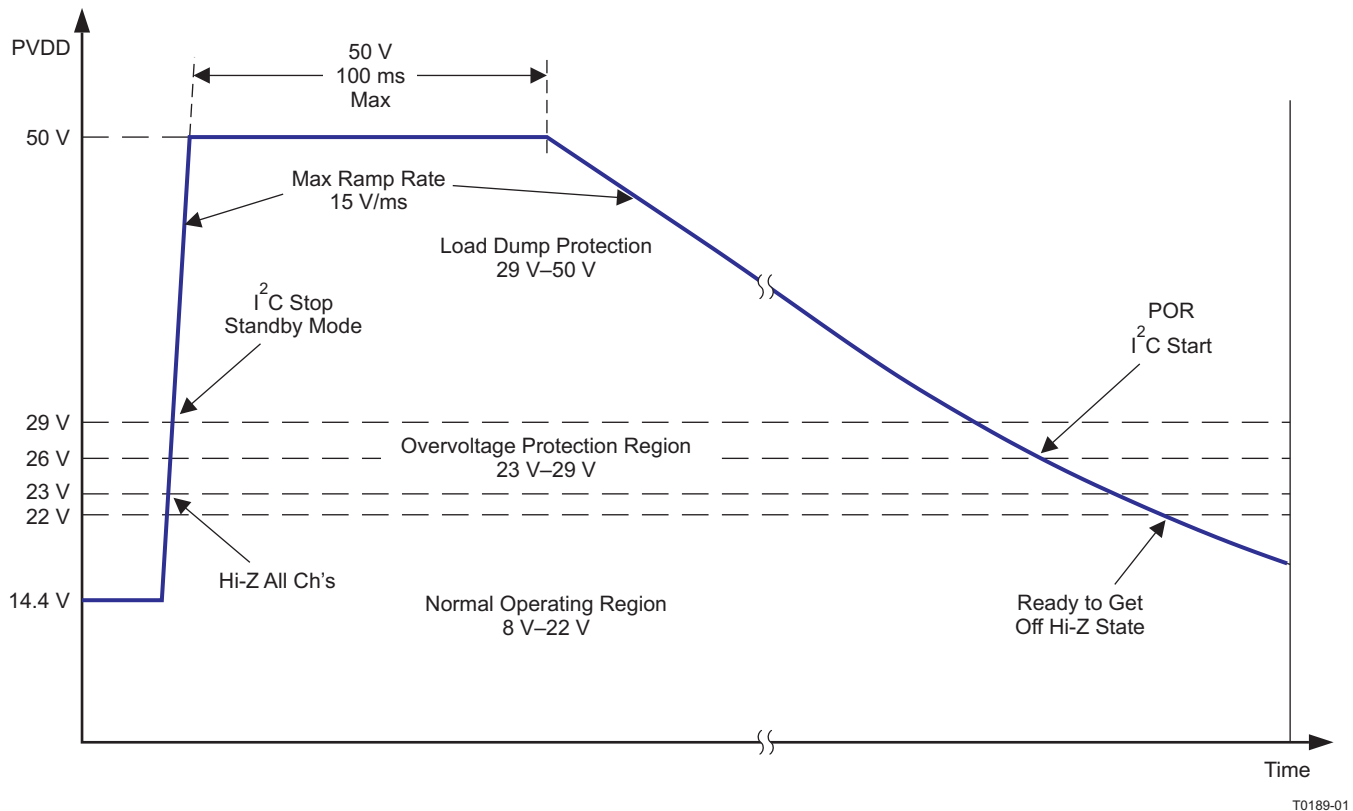

Figure 15. Voltage Operating Regions With Load Dump Transition Defined
6. **Undervoltage (UV) and Power-on-Reset (POR)**—The undervoltage (UV) protection detects low voltages on PVDD, AVDD, and CP. In the event of an undervoltage, the **FAULT** pin is asserted and the I²C register is updated, depending on which voltage caused the event. Power-on-reset (POR) occurs when PVDD drops low enough. A POR event causes the I²C to go into a high-impedance state. After the device recovers from the POR event, the device must be re-initialized via I²C.
7. **Overvoltage (OV) and Load Dump**—The OV protection detects high voltages on PVDD. If PVDD reaches the overvoltage threshold, the **FAULT** pin is asserted and the I²C register is updated. If the voltage increases beyond the load dump threshold of 29 Vdc, the device shuts down and must be restarted once the voltage returns to a safe value. After the device recovers from the $\neq$ load dump event, the device must be re-initialized via I²C. The TAS5414A and TAS5424A can withstand 50-V load-dump voltage spikes (see Figure 15). Also depicted in this graph are the voltage thresholds for normal operation region, overvoltage operation region, and load-dump protection region. Figure 13 shows the regions of operating voltage and the profile of the load dump event. Battery charger voltages from 25 V to 35 V can be withstood for up to 1 hour.